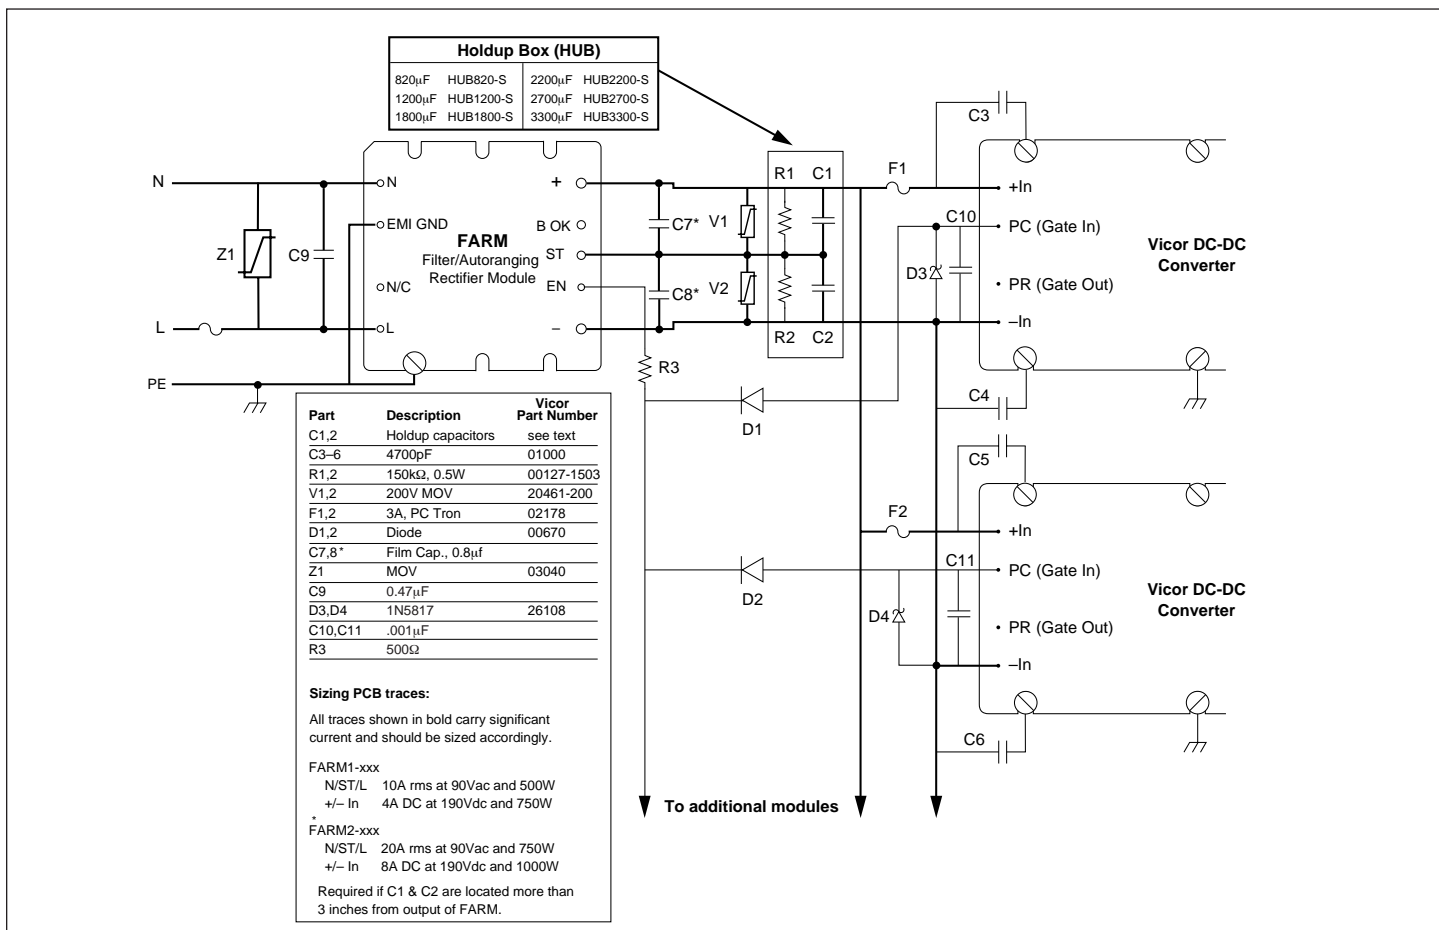

Figure 9—Converter connections
Strap (ST) Pin. In addition to input and output power pin connections, it is necessary to connect the Strap pin to the center junction of the series hold-up capacitors (C1, C2, see Fig. 9) for proper (autoranging) operation. Gas tubes V1 and V2 provide capacitor protection. The bleeder resistors (R1, R2, see Fig. 9) discharge the hold-up capacitors when power is switched off. Capacitors C7 and C8 are recommended if the holdup capacitors are located more than 3 inches from the FARM output pins.
It should be noted that the series combination ($C1$, $C2$, see Fig. 9) requires each capacitor to be twice the calculated value, but the required voltage rating of each capacitor is reduced to 200V.